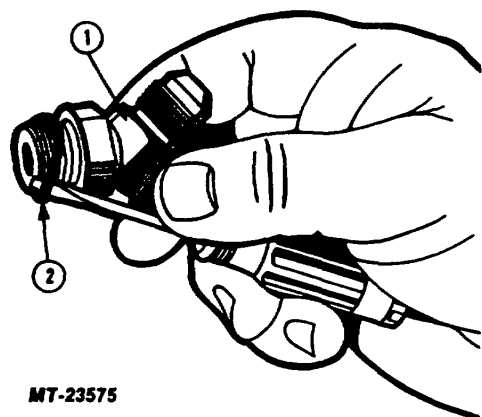

Fig. 18 Remove O-Ring
- 12. Remove discharge fitting and discard O-ring, Figure 18.